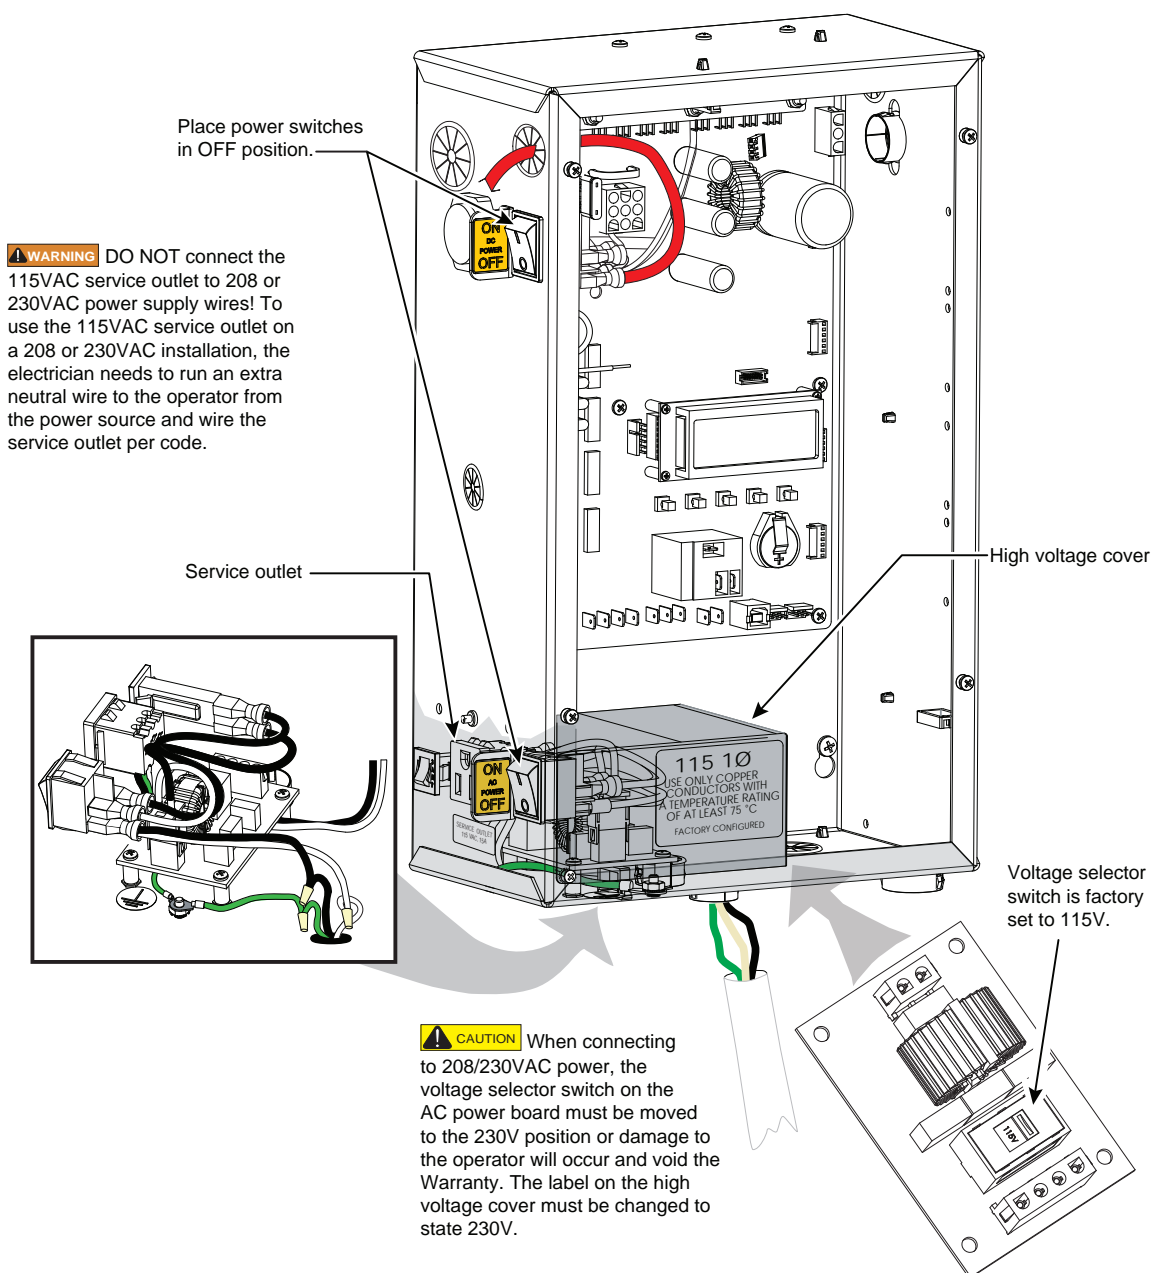

Figure 22. Wiring AC Power
Turn off AC power at the source (circuit breaker panel) before accessing the wires in the SlideSmart junction box. Follow facility Lock Out/Tag Out procedures. Make sure both the DC and AC power switches, on the side of the SlideSmart control box are in the off position. See Figure 22.
2. Access the input power wires and service outlet wires by removing the two Phillips-head screws that secure the high voltage junction box cover. See Figure 22.
3. Wire nut or crimp bond the power supply wires to the black and white lead wires coming from the AC power switch (no label). See Figure 22.
2. Remove the high voltage protection cover by unscrewing the two Phillips-head screws that secure it. See Figure 22.
4. Access the input power wires by removing the two Phillips-head screws that secure the high voltage junction box cover. See Figure 22.